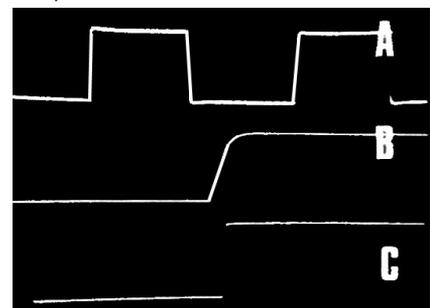

Fig. 14 (A). Appears to be a good square-wave with a fast leading edge. (B) reveals it is not so fast (several µ sec) whereas (B) has a rise time of 1 µ sec.
Square-wave testing is popular with audio engineers as a ready means of estimating, among other things, the frequency response performance of amplifiers including tone controls, filters etc. A uniform square-wave with a rise time over 10% to 90% of the leading edge of about 1uS is essential. This can be checked by using the 'scope calibration as already outlined. Don't accept what appears to be nice looking square-wave as in Fig.14 (A) because the leading edge looks fast.
Opened out, it appears as in Fig. 14 (B) and the rise-time is several microseconds, whereas (C) has a rise-time of better than 1µS. We cannot delve too far into the interpretation of square-wave displays as this could warrant a whole article in itself but instead give some general examples, with the aid of oscillograms, of how amplifier performance can be estimated just by looking at the display. These are shown in Figs. 15, 16 and 17 and the captions explain. Further information on the subject will be found in the references given at the end of this article.